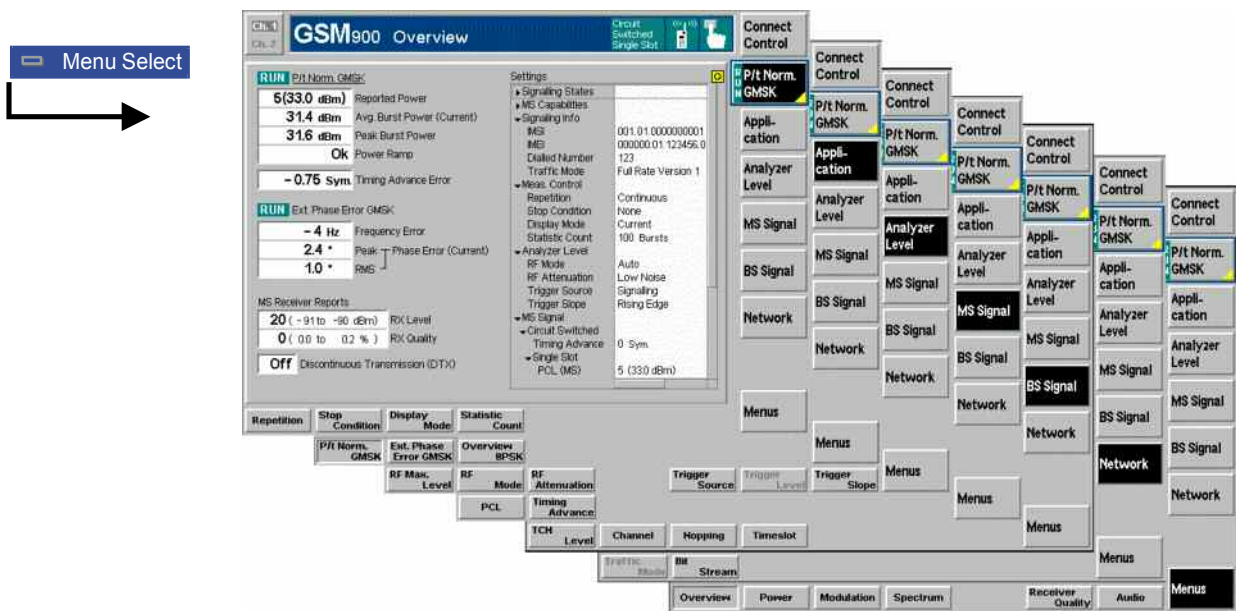

Fig. 4-48 Overview of settings and measurements
- The other softkeys on the right side are combined with various hotkeys (see Fig. 4-48 below). The softkey/hotkey combinations provide test settings and switch over between different measurements.